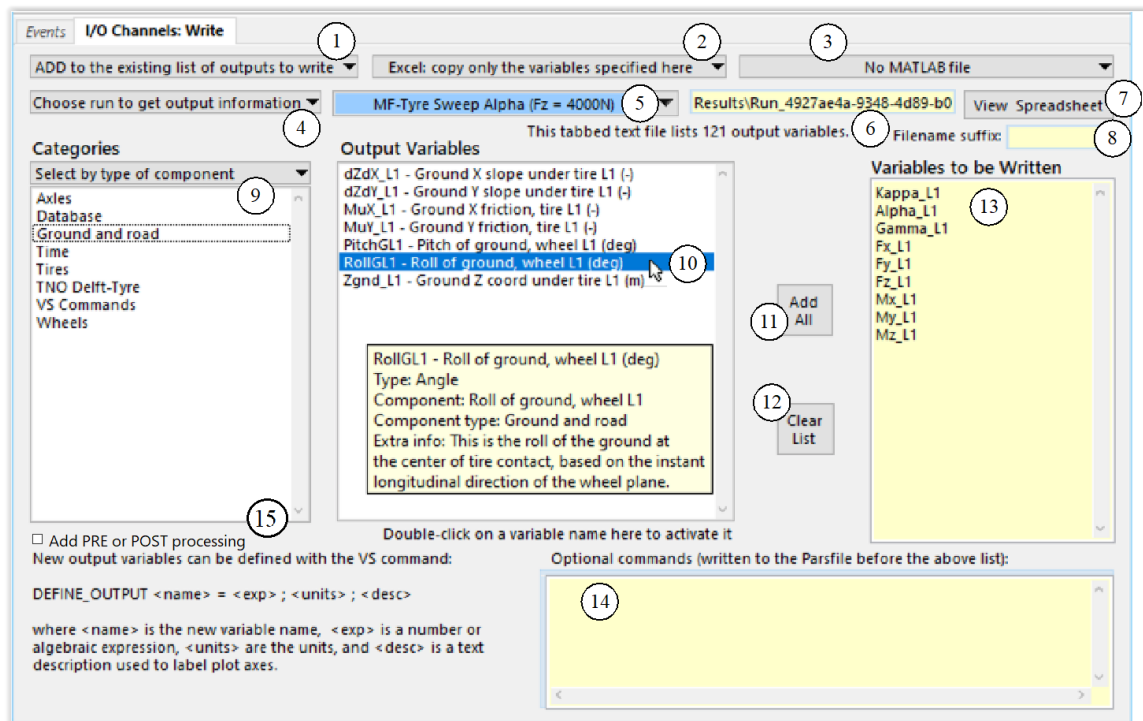
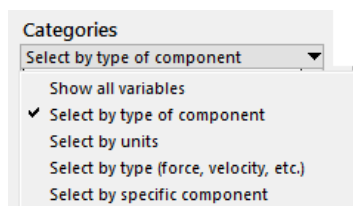

Figure 3. I/O Channels: Write screen.
Figure 10. Options for browsing output variables.
The **I/O Channels: Write** screen (Figure 3) is mainly used to specify variables that should be written to the output file because they will be used in post-processing with third-party software such as Excel or MATLAB. Typically, the dataset will also cause a CSV and/or MATLAB (MAT) file to be created by copying data from the native output file.
- ⑧ Filename suffix, appended to CSV or MAT files generated using this dataset. When the field is blank, the CSV and MAT file have the same name as the output file generated by the VS Math Model, but with the appropriate extension.
- ⑨ **Categories** drop-down control and field. Use the drop-down control to specify how the list of all variables might be sorted (Figure 10). For example, if you choose the option **Select by type of component**, then all of the component types are listed in the field, as shown in Figure 3. If you choose the option **Select by units**, then this list shows all of the units that are used, and the next list shows all of the variables with the currently selected units (km/h, deg, etc.). Click on a category in the list, and those variables associated with the selected category appear in the adjacent list of available variables ⑩.
- ⑩ **Output Variables** list. This shows the names of all of the output variables that are in the selected category. For example, in Figure 3 the list shows all output variables in the category “Ground and road.”
If you select an item and then right-click in this list, the VS Browser shows more information about the selected variable (Figure 3).